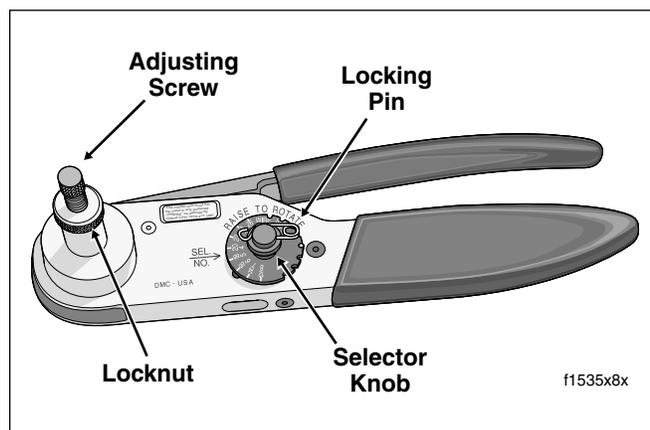

Figure 8-8. Deutsch Solid Barrel Contact Crimp Tool (Part No. HD-42879)
- Remove locking pin from selector knob. See Figure 8-8.